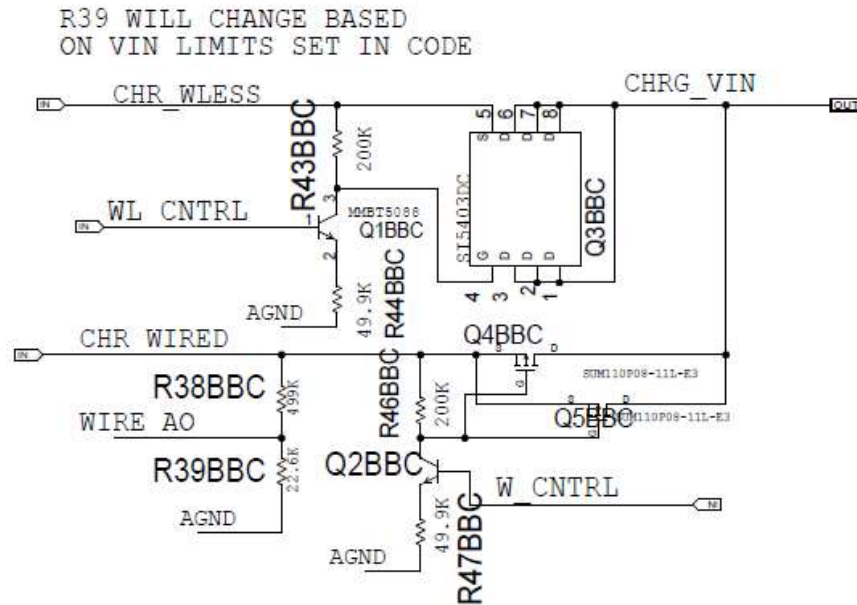
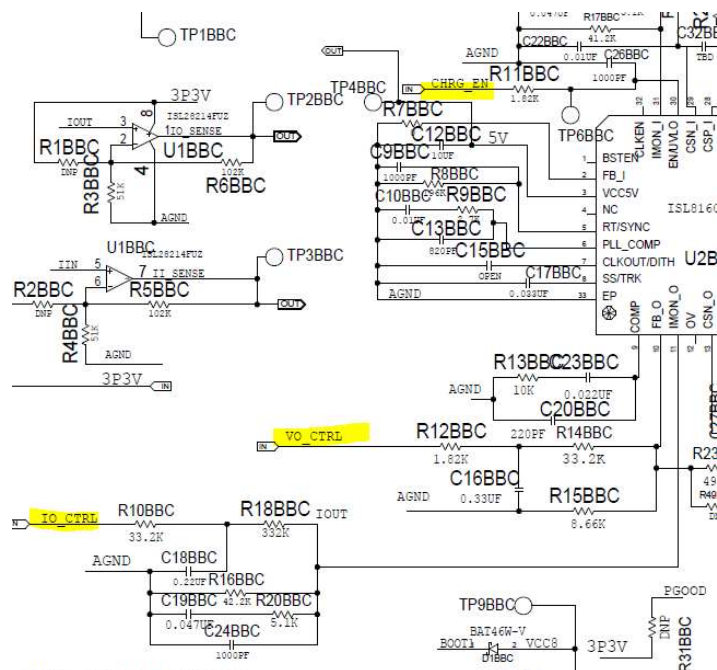

Figure 9-1: Control Circuitry That Selects Which Input Connects to the Charger
Figure 9-3: Connections to the Charger that are Reinitialized at Charger Initialization
The W_CNTRL and WL_CNTRL control the PMOS ON state via an NPN resistor as shown in Figure 9-1. The charger's regulation voltage and current are controlled by a PWM pin that makes a cheap DAC when connected to a low pass filter. See Figure 9-3. The pin's PWM frequency is reset, and the pins' functions stop in this routine.
CHG_WL_CNTRL is a control pin that connects the wireless power output (~20V) to the charger circuit through a PMOS. A low (0) setting turns off the NPN that connects to the PMOS gate. The result is a PMOS that is OFF. See Figure 9-1. All pins' names are similar to the net names in Table 5.
The *chg_wired_charger_check()* routine reads the voltage at the wired charger input port (CHR_WIRED; Figure 9-1) to determine if a charger is connected to the port.
The code internally checks the voltage. The MCU, using the AN16 (P11) pin, reads the WIRE_AO (Figure 9-1) voltage by switching the multiplexer's input to it. If the voltage is greater than 10V, then the line present bit is set to PRESENT. A comparison is made to check if the wrong voltage charger is connected to the port. This sets the WPF (Table 12: System Variables) bit to high (1). The check closes out the routine by changing the pin to an interrupt and configuring the multiplexer to the original position.
The *chg_wired_charger_connect()* configures and connects the charger (ISL81801) to the battery. The code measures the internal reference that determines the full range and step size of the MCU ADC. The system is placed in a safe state by turning OFF any power FETs between the battery and charger or motor. The input P channel MOSFETs (Figure 9-1) that connects the charger to the wired or wireless ports is disconnected by setting the control signals ($\sim\text{W_CNTRL}$ and $\sim\text{WL_CNTRL}$) to 0. This turns OFF the NPN allowing the gate to source voltage to equal 0.
The charger's regulation voltage is programmed to a few hundredths of the measured unloaded pack voltage. When CFET (Charge FET) is turned ON, there is less of a transient between the system. The regulation voltage and current are controlled by the pulse width modulated (PWM) pins from the MCU. See Figure 9-3.
The regulation current is controlled by modulating the IO_CNTRL pin of the MCU (PA3). From the PWM signal, a voltage is established at the R10BBC/ C18BBC node (Figure 9-3) (Control Current). The voltage sets the clamping current to the battery, enabling a constant current charging.